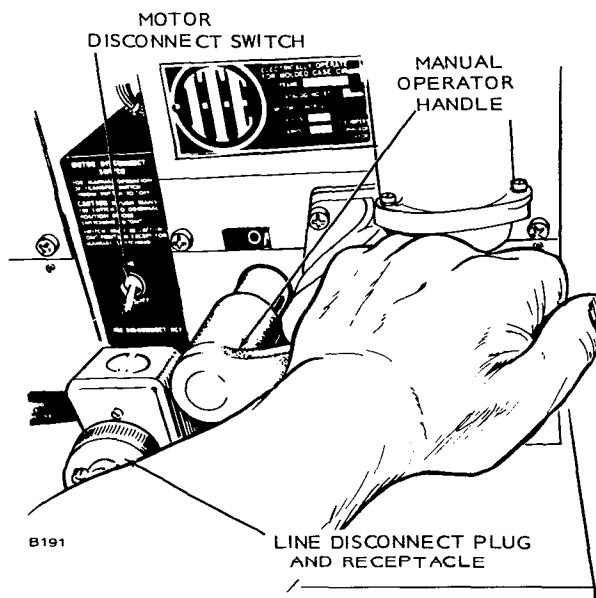

FIGURE 2-21. MANUAL OPERATION OF TRANSFER SWITCH
8. Turn handle clockwise to open the transfer switch contacts (position indicator should now read "OFF"). See Figure 2-21.